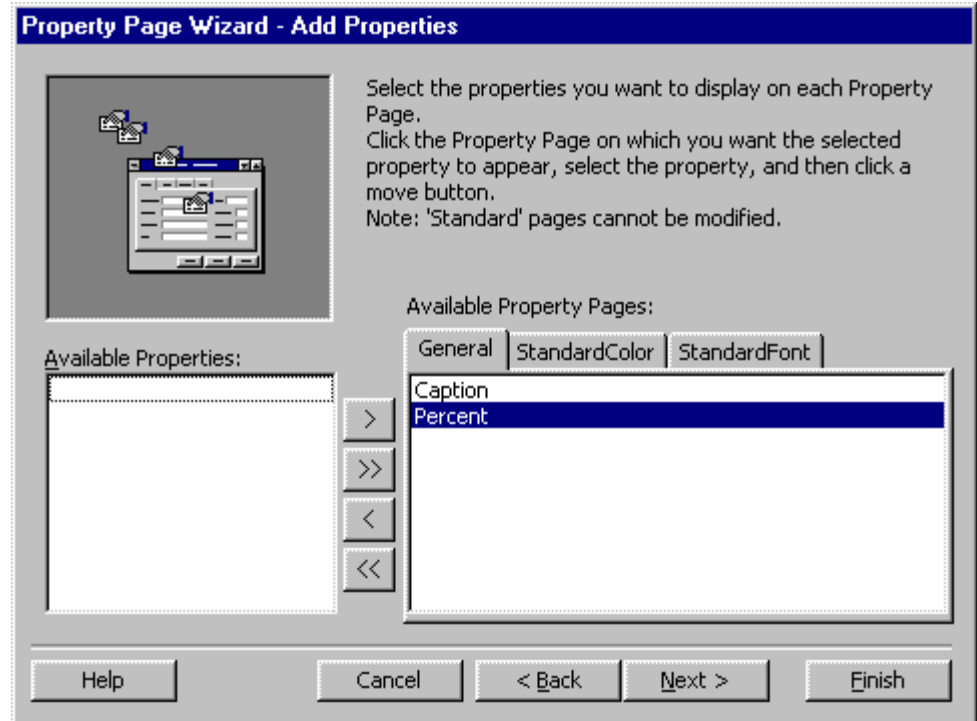

Figure 19. Use the wizard to assign properties to pages.
5. **Assign properties to Property Pages:** On the next page, select properties and assign them to the appropriate property page. The wizard does its best to guess which page is the correct one. In this case, add **Percent** and **Caption** to the **General** page. Once you're done, the wizard page should look like the page shown in Figure 19.